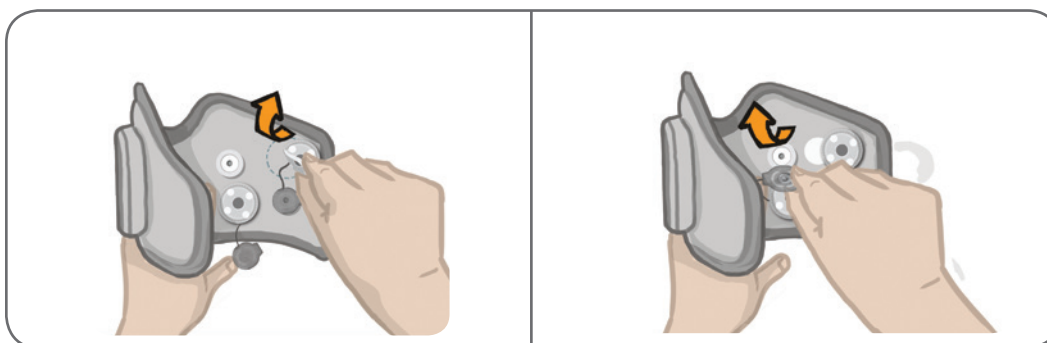

Figure 11-10: Attaching New Electrode Bases (Left)
4. Attach the new electrode bases where the previous bases were attached. See Figure 11-10.
5. Connect the electrode base snaps to the plug holes. See Figure 11-10.